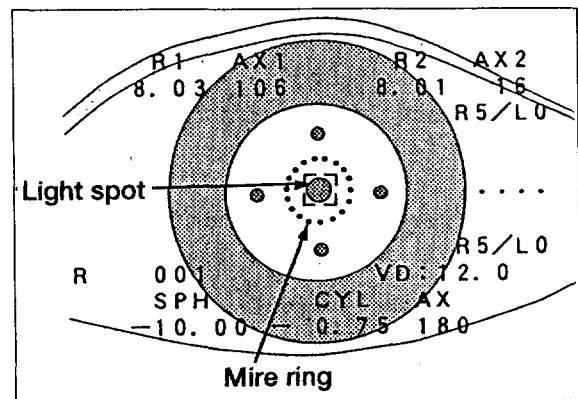

Figure 6-9
- ④ In the measurement mode, with the patient's eye roughly aligned, look through the view finder. When you see the patient's eye on the screen, position the pupil image towards the center (see Figure 6-9).